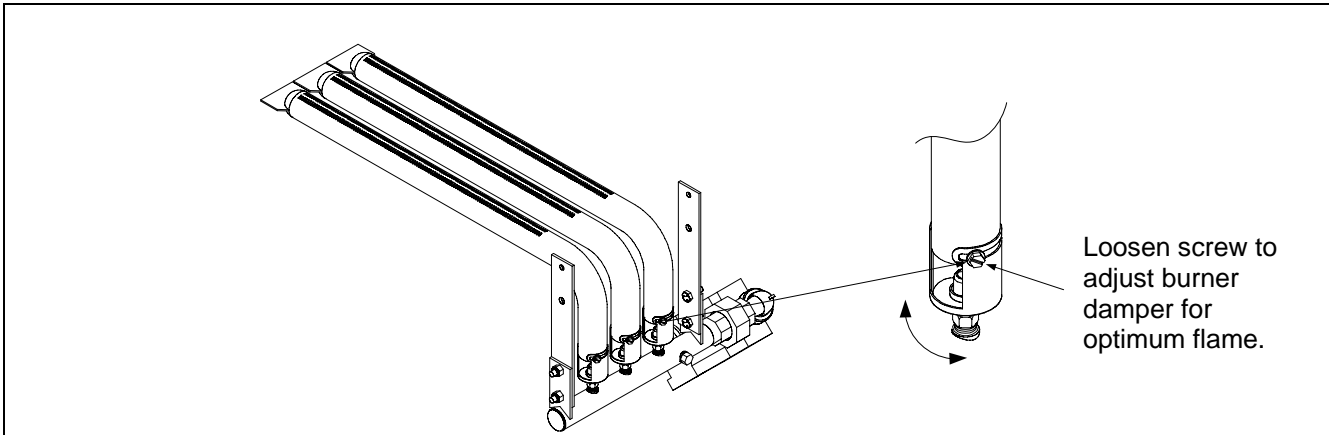

Figure 2: Burner damper adjustment on burner tubes.
4. Check the main burners and, if necessary, adjust the burner dampers at each burner (**Figure 2, Page 4-4**) to obtain the best flame characteristics. An optimum flame should be blue at the base, 2-½ - 3" in height, and have a reddish-white tip ¾ to 1" in height. To adjust, loosen the screw of the air shutter, and open or close the shutter until the burner flame matches the optimum flame description above. Tighten the shutter screw, and repeat for all burners. The flame should be straight and not pulling to the rear of the fryer. If the flame is pulling to the rear, inspect the main rear baffle for heat damage and replace if necessary.